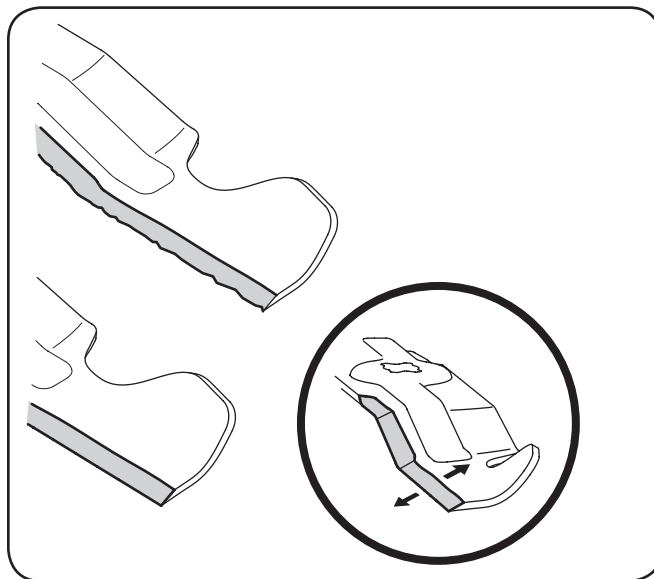

Figure 7-6
4. To properly sharpen the cutting blades, remove equal amounts of metal from both ends of the blades along the cutting edges, parallel to the trailing edge, at a 25° to 30° angle. Always grind each cutting blade edge equally to maintain proper blade balance. See Figure 7-6.